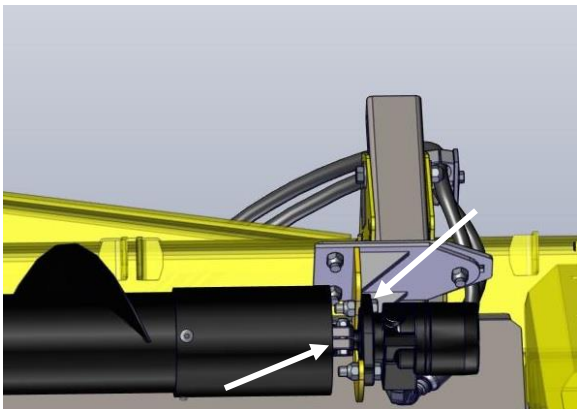

Figure 308
2. The bolt retaining the drive joint can be removed. The hoses can be removed from the motor. Note: Cover the fittings and port on the motor after the hoses are removed to avoid getting dirt in the motor. Figure 308